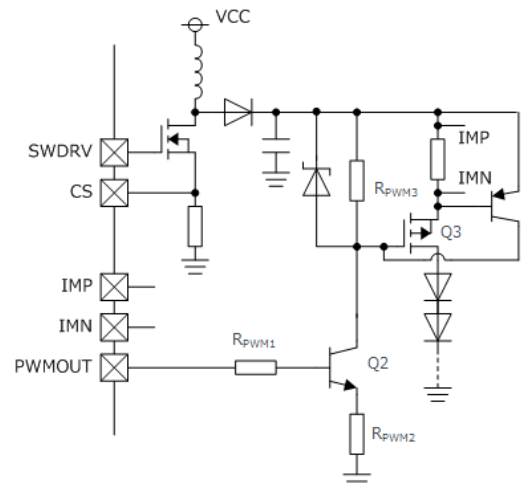

Figure 22. LED Anode Ground Fault Protection Attaching Externally Circuitry
- ① UVLO is cancelled when $V_{CC} > 4.25\text{ V}$ (Typ).
- ② IMP-IMN terminal voltage rises to become 200 mV.
- ③ Switching Duty gradually expands and is stabilized at IMP-IMN of 200 mV.
- ④ Output voltage is stabilized.
- ⑤ LED Anode-GND short-circuits.
- ⑥ It becomes $IMP-IMN \geq 0.3\text{ V}$ (Typ) and performs output Short circuit detection (SCP) and outputs SWDRV / PWMOUT = Low. Discharges an SS terminal and the FAIL terminal changes into High \Rightarrow Low.
- ⑦ When SCP is detected, capacitor connected to TDISC will be charged (11 μA (Typ)) until V_{TDISC} becomes 1.0 V (Typ).
- ⑧ Once SCP detection is released at $V_{TDISC} \geq 1.0\text{ V}$ (Typ), capacitor connected to TDISC starts to discharge, and SS charging, SWDRV / PWMOUT operate normally.
- ⑨ If SCP condition $V_{TDISC} \geq 0.3\text{ V}$ (Typ) is fulfilled restarts from condition ⑥ operates normally if SCP condition is not fulfilled.
Operation described above is performed in the LED anode ground short fault. However, even if SCP is detected by the potential difference of IMP pin and the IMN pin, there is delay time of internal circuit after detection and require time before PchMOS is off. Therefore allowable current of PchMOS may be exceeded transiently. (It may be exceeded in ⑧ of the timing mentioned above.) Therefore, like Figure 22, PMOS can be turned off on an expressway by adding PNP Tr externally.